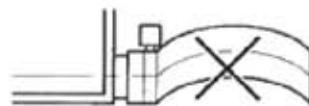

Fig. 13
- Do not fold drain hose inside the indoor unit. (Refer to Fig. 13).